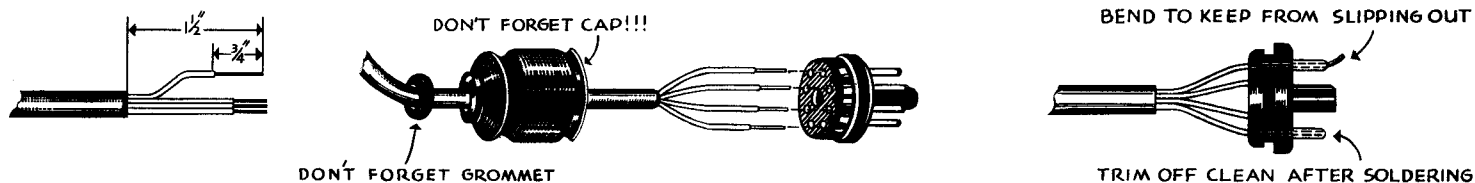

Figure 6
- ⊗ Connect a 1 K Ω resistor (brown-black-red) between lug D1 (NS) and pin 5 (S) on socket V4.
- ⊗ Connect a 100 Ω resistor (brown-black-brown) between terminal strip B (S) and control lug J1 (NS).
- ⊗ Connect a 100 K Ω resistor (brown-black-yellow) between control lug J1 (S) and lug C1 (NS) (use sleeving).
- ⊗ Connect a 1 K Ω resistor (brown-black-red) between lug C1 (NS) and pin 5 (S) on socket V3.
- ⊗ Connect one of the matched pair of 47 K Ω 2 watt resistors (large yellow-purple-orange) between lug C2 (S) and pin 2 (NS) on socket V2.
- ⊗ Connect a .25 μ fd (large tubular) condenser between pin 2 (S) on socket V2 and lug C1 (S) (use sleeving). Again note that "outside foil," if marked, may be disregarded.
- ⊗ Connect the other 47 K Ω 2 watt resistor (large yellow-purple-orange) of the matched pair between lug D2 (S) and pin 5 (NS) on socket V2.
- ⊗ Connect a .25 μ fd condenser between pin 5 (S) on socket V2 and lug D1 (S) (use sleeving).
- ⊗ Connect a .05 μ fd condenser between pin 5 (S) on socket V1 and pin 1 (S) on socket V2.
- (X) Connect another .05 μ fd condenser between pin 6 (S) on socket V1 and pin 4 (S) on socket V2.
- (X) Install the octal plug on the end of the cable. Remove the overall insulation for about 1 1/2". Remove the insulation from each wire for about 3/4". Slip the plug cap on the cable with the grommet toward the chassis end. Arrange the wires in a circle and slip wire ① in the hole marked 1, wire ② in the hole marked 2, etc. Make sure the wire sticks out beyond the pin. Bend the wire over to keep it from slipping out. See Figure 6.